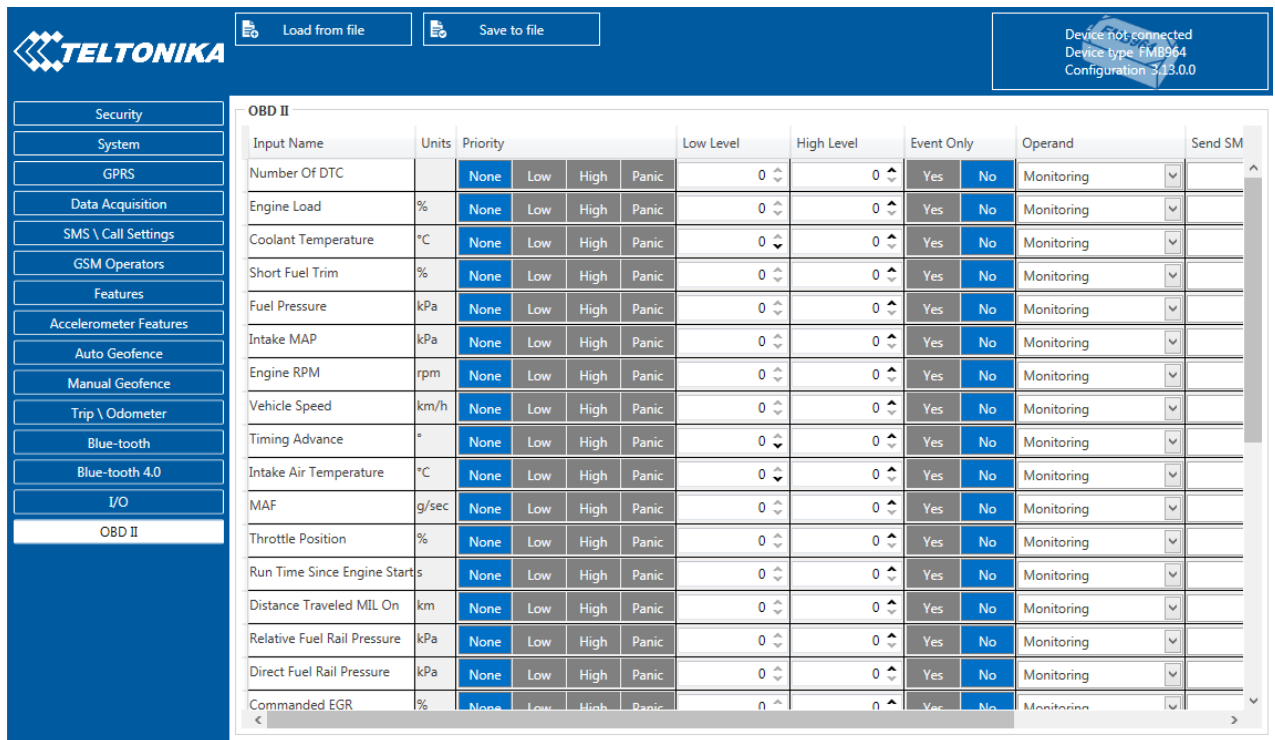

Figure 38 OBD II blue-tooth settings.
9. Go to „**OBDDII (blue-tooth)**“ in left menu and select priority and others parameters visible at **Figure 38**.